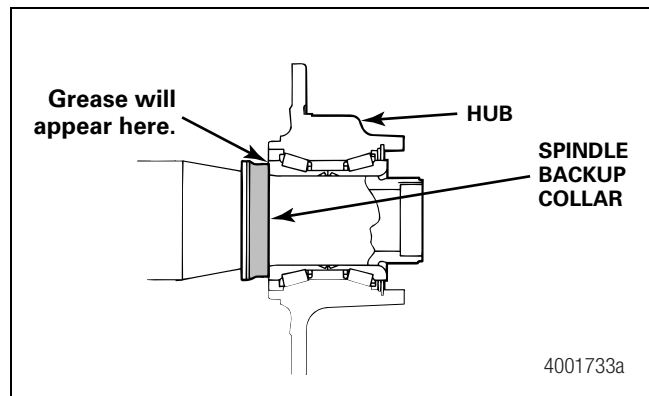
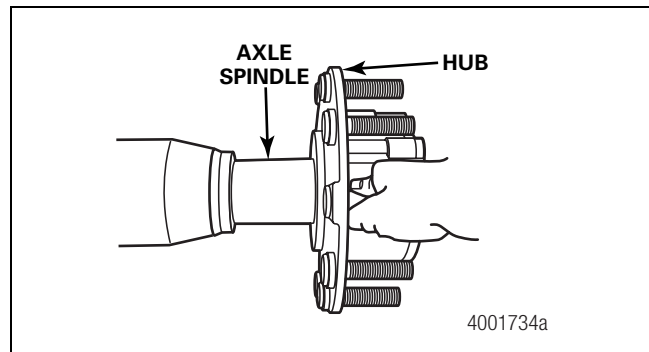

Figure 3.29
Figure 3.30
5. Carefully align the hub bore to the axle spindle and slide the hub straight onto the axle spindle. The hub is correctly installed when it bottoms-out against the spindle backup collar. When you install the hub, it is normal for a small bead of grease to appear at the hub-spindle backup collar joint. Figure 3.29 and Figure 3.30.